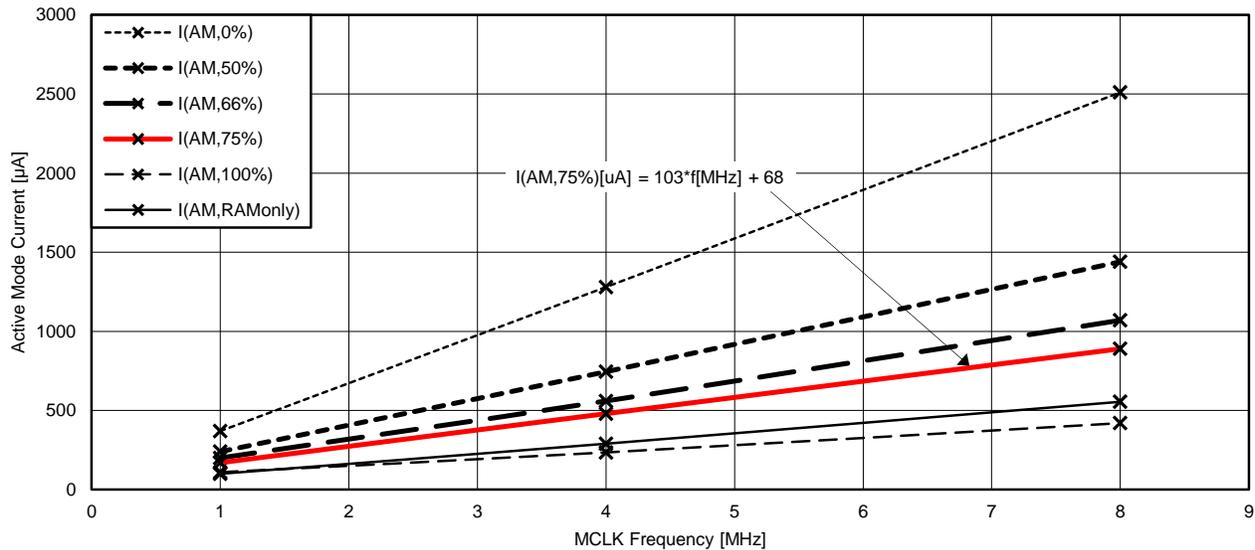

Figure 5-1. Typical Active Mode Supply Currents vs MCLK frequency, No Wait States
(3) Represents typical program execution. Program and data reside entirely in FRAM. All execution is from FRAM.
(4) Program resides in FRAM. Data resides in SRAM. Average current dissipation varies with cache hit-to-miss ratio as specified. Cache hit ratio represents number cache accesses divided by the total number of FRAM accesses. For example, a 75% ratio implies three of every four accesses is from cache, and the remaining are FRAM accesses.
(5) See Figure 5-1 for typical curves. Each characteristic equation shown in the graph is computed using the least squares method for best linear fit using the typical data shown in Section 5.4.
(6) Program and data reside entirely in RAM. All execution is from RAM.
(7) Program and data reside entirely in RAM. All execution is from RAM. FRAM is off.